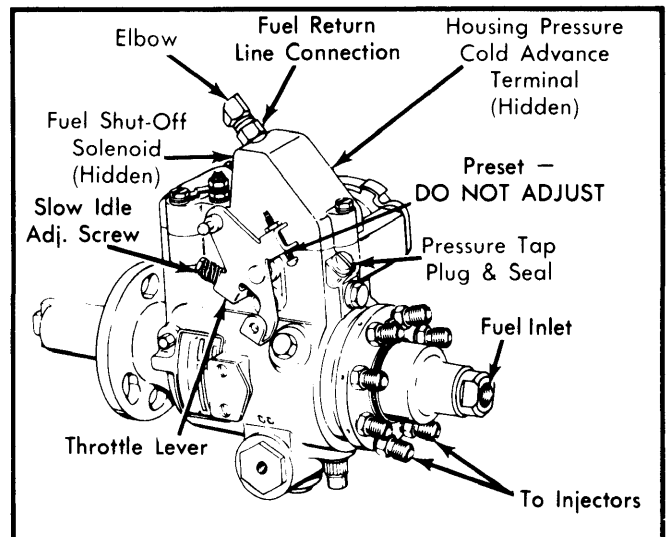

Fig. 3 Diesel Injection Pump
2) Remove pressure tap plug from injector pump. See Fig. 3.